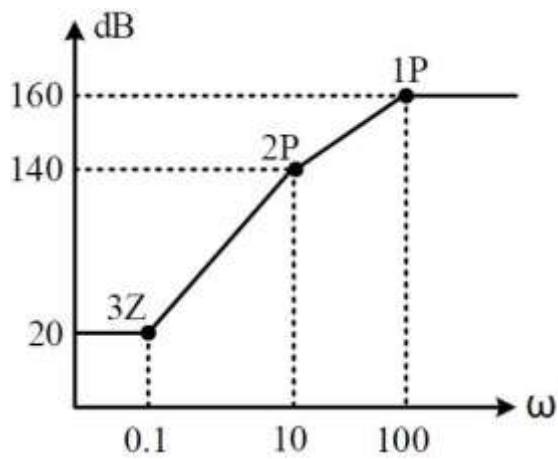

Fig. Q 3B
3B. For the bode magnitude plot of a minimum phase system as shown in **Fig. Q 3B**, determine the transfer function of the system. (03)